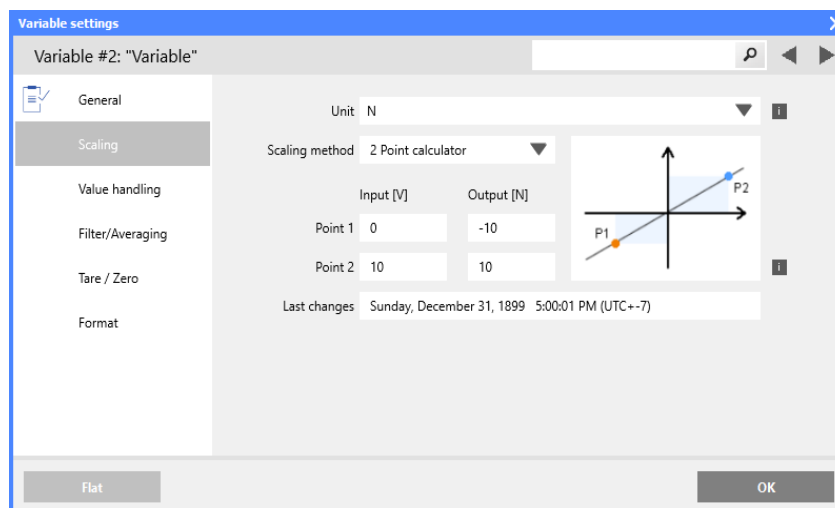

Fig. 11-5 Scaling options for voltage using 2 Point calculator
3. In the **Scaling** options of the *Variable settings* window in *GI.bench*, you may enter a transducer's (sensor's) calibration data from a respective calibration certificate or data sheet (e.g., refer to Fig. 11-5, page 216) using **2 Point calculator** as the **Scaling Method**.